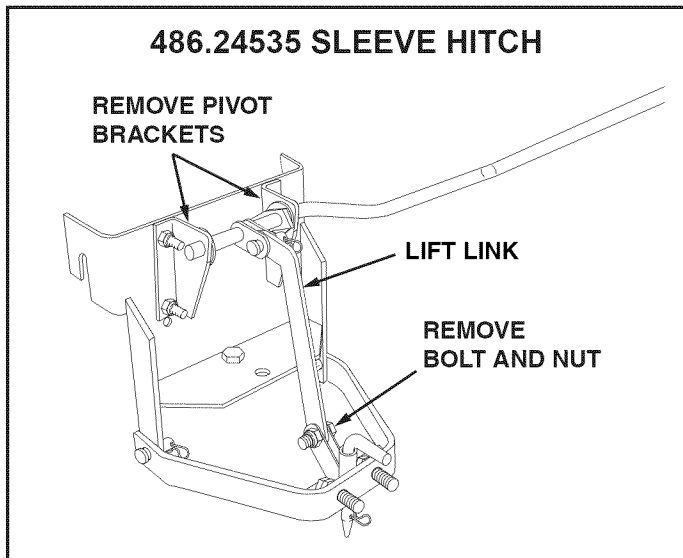

FIGURE 1
- Remove the bolt and nut that attach the lift link to the sleeve hitch frame. Remove the handle and the pivot brackets from the sleeve hitch frame. See figure 1.